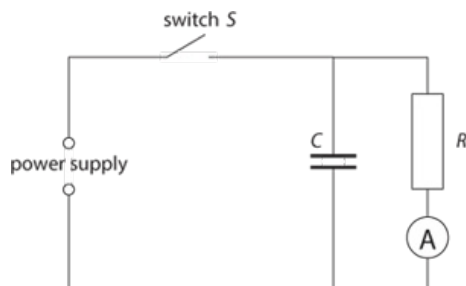

Figure 13.2: Circuit diagram.
- 1 Set up the circuit shown in Figure 13.2. You will need to make sure that the capacitor is connected correctly.